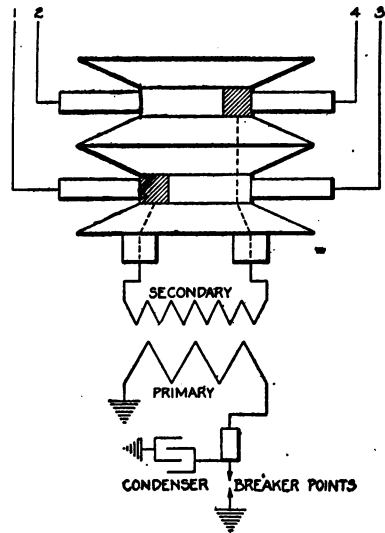

Fig. 452. Armature Circuit of Bosch DU Type
**Bosch Type NU Magneto.** The type NU operates on a principle distinctly its own, having no distributor gears and attendant parts. The primary circuit is the same as in the DU and has a similar breaker. The secondary winding is entirely insulated from the primary with both ends brought out to a slip-ring. This slip-ring is double and has two segments opposite each other on adjacent slots. This armature circuit is shown in Fig. 452. One end of the primary is grounded, and the other connects to the breaker. One end of the secondary connects to a one-ring segment, and the other to the